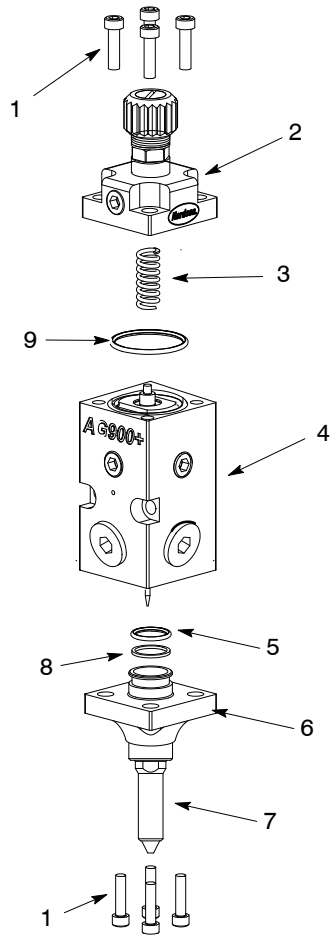

Figure 23: AG-900+/AG900+S Applicator Assembly
6. See Figure 23. Install new large o-ring (9) on top of piston cartridge.
7. Re-install spring(3) and cap (2). Insert two of the four socket head screws (1) in opposite corners of the cap. Depress the cap and hand-tighten the two screws. Insert the remaining screws into the cap and tighten all four screws to 7–8 ft.lbs.
8. Install new o-ring (5) and back-up ring (8) onto nozzle flange (6).
9. Re-install nozzle flange (6) onto applicator module body (4). Insert two of the four socket head screws in opposite corners of the flange. Hold the flange in place and hand-tighten the two screws. Insert the remaining screws into the flange and tighten all four screws to 7–8 ft.lbs.